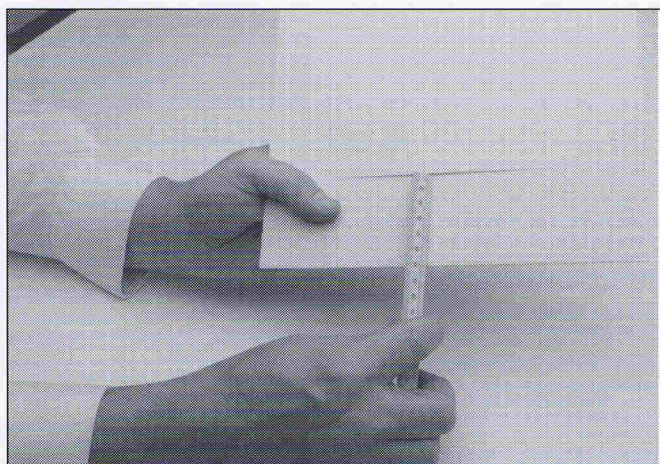
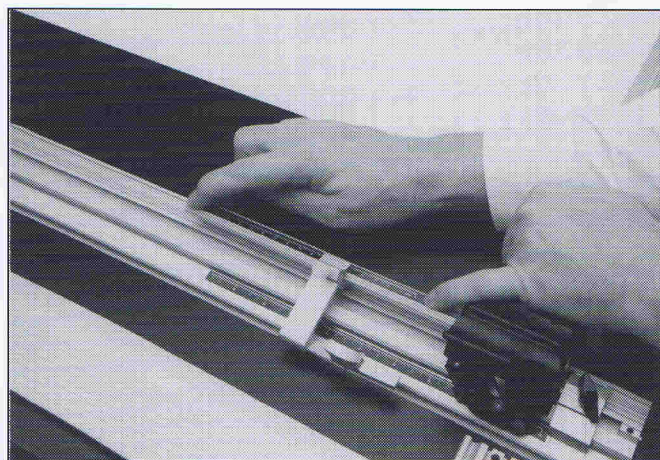

Fig. 3
Fig. 4
5. Take the mountboard from the machine and measure the following distances on the face accurately with a steel rule (Fig. 3).
- from the end of the cut to the bottom edge; this should be precisely the same as the reading of the end-of cut scale (9).
6. If the reading on the start-of-cut scale is not precisely the same as the corresponding measurement on the mountboard, re-calibrate the scale by moving the start-of-cut scale until the reading coincides exactly with the above measurement (fig. 4).